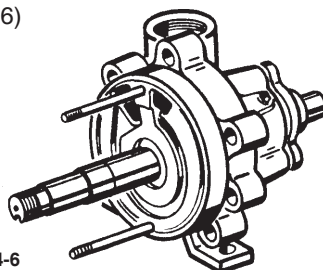

Figure 4-6
6. Slide a left hand channel ring (#10B) down the guide rods. The counterbore in the ring should fit over the hub of the diffuser. The port in the channel ring would be at the eleven o'clock position with the pump feet down. Be careful not to pinch the "O" ring. (refer to figure 4-6)